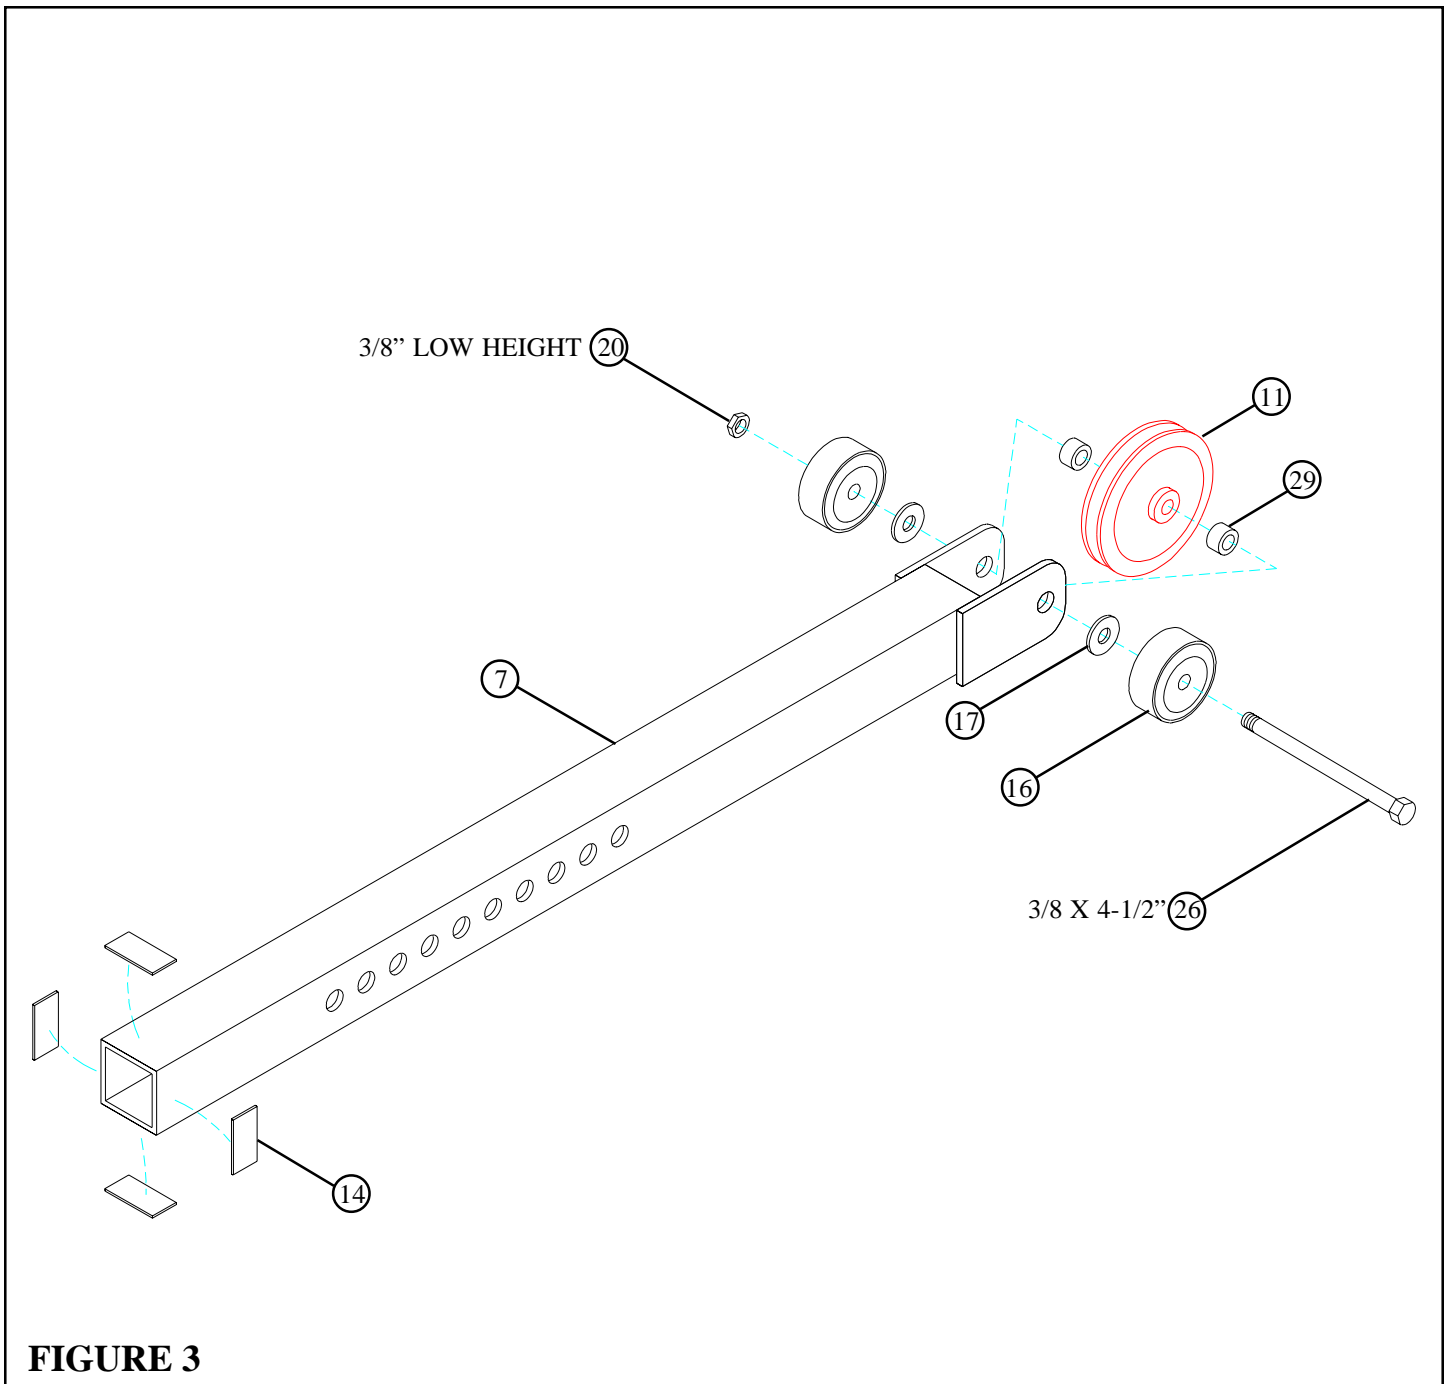

**FIGURE 2**
- Insert two 2” SQ. ENDCAPS (13) into the ends of the SEAT FRAME (2) as shown in FIGURE 2.
- **SECURELY** assemble one 3/8” SPRING PIN (33) to the spring pin barrel on the SEAT FRAME (2) as shown in FIGURE 2.
- Attach four PARAGLIDE STRIPS (14) to the *inside* of the SEAT FRAME (2) using the following steps:
- Thoroughly clean all surfaces where the PARAGLIDE STRIPS (14) are to be attached.
- Remove the PARAGLIDE STRIPS (14) from the paper backing and firmly apply them to all shown surfaces.